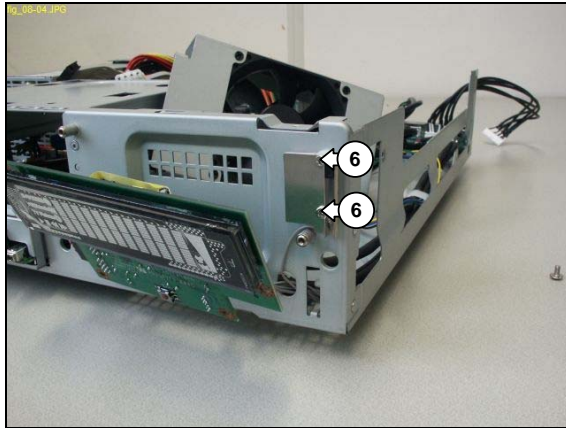

Figure 12.8-4
11. Remove the 2 mounting screws (6) from the antenna. See Figure 12.8-4.